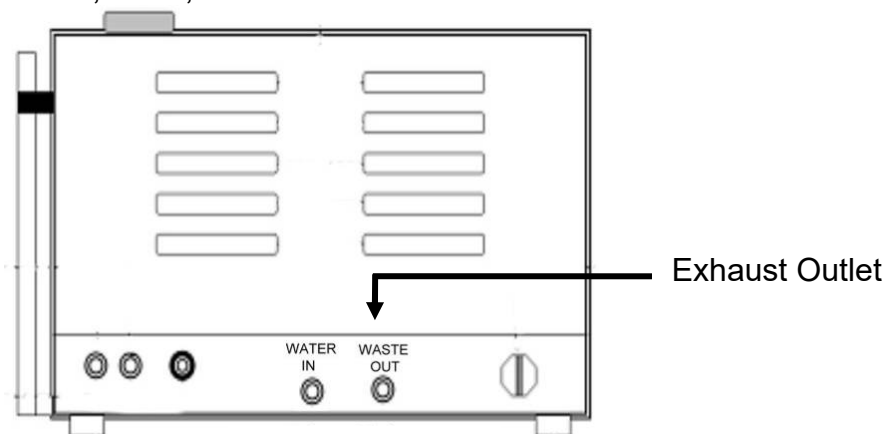

Figure 30
- D. Heating water is drained from the chamber through this outlet. Connect the exhaust hose to the "WASTE OUT" as shown in Figure 30 to drain heating water according to the local national law.